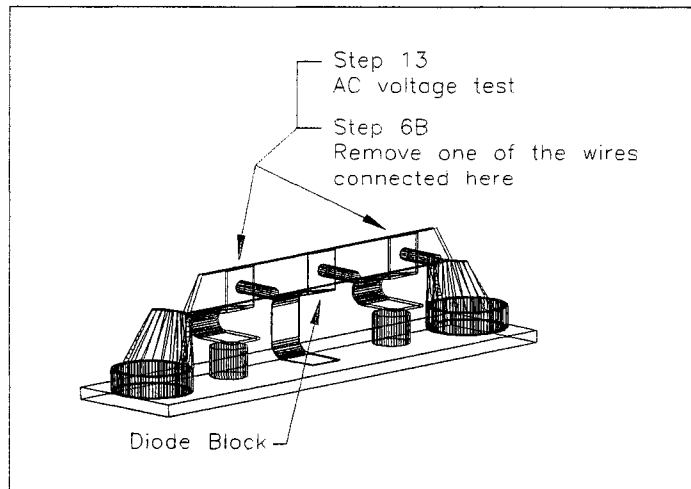

Figure 3-34
- b) Remove one lead from one diode (see figure 3-34).
13. Measure AC voltage at diodes (see figure 3-34).